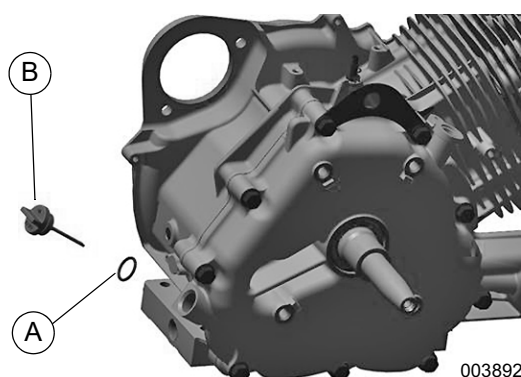

Figure 14-50. Install Oil Dipstick (Portable)
See Figure 14-50. Place o-ring (A) on dipstick (B). Apply a small amount of 5W-30 oil to o-ring. Insert dipstick into crankcase and hand tighten.